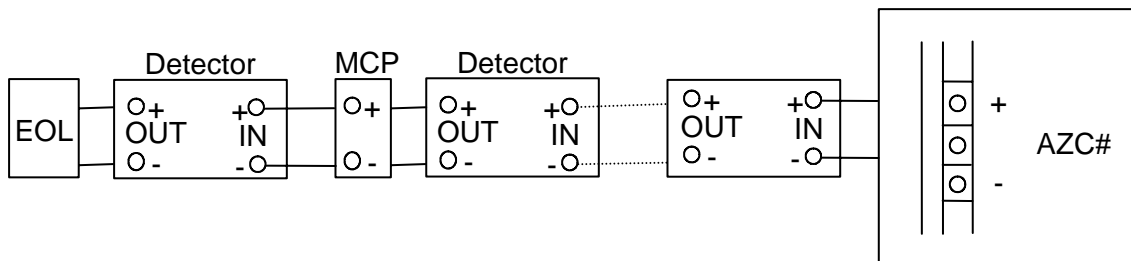

Figure 2.8
- 10) Figure 2.8 shows the correct way to wire an AZC with detectors and/or MCPs. The MCPs and detectors may be in any order. The MCPs however must be the correct type for 15V operation.